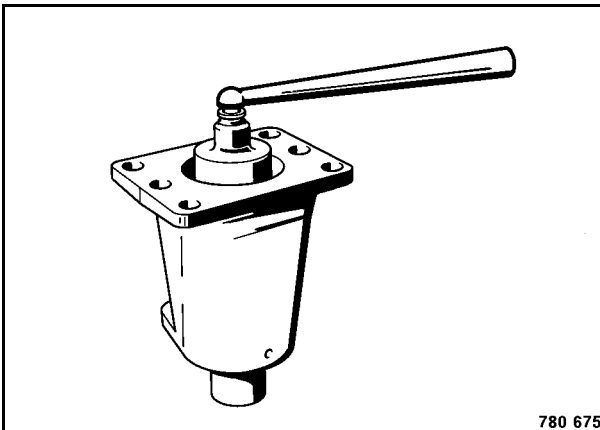

Fig. 6
10. Tighten the tensioning nut with the tightening ring (Fig. 6), thereby